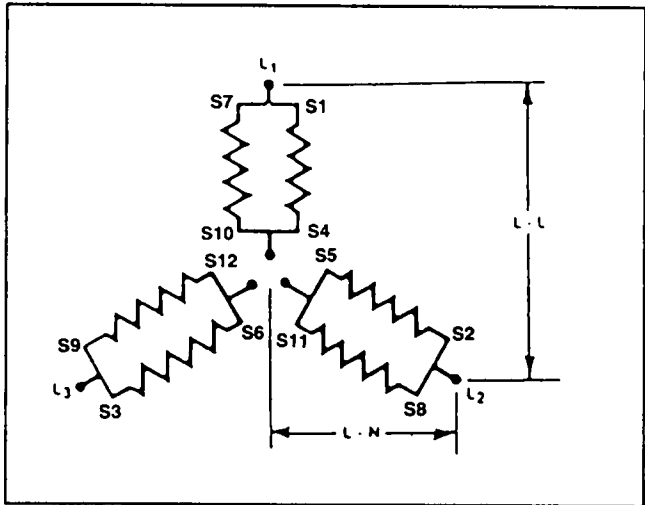

Figure 3. Parallel Wye (Low Wye) Stator
Low Wye or Parallel Wye type stators (Figure 3) have six windings and twelve (12) leads coming out into the AC connection (lower) panel. This type of stator can be used to supply the 3-phase voltages indicated in the following CHART.